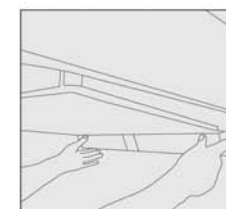

Fig.5
11. Install the oil cup assemblies(see Figure 5);